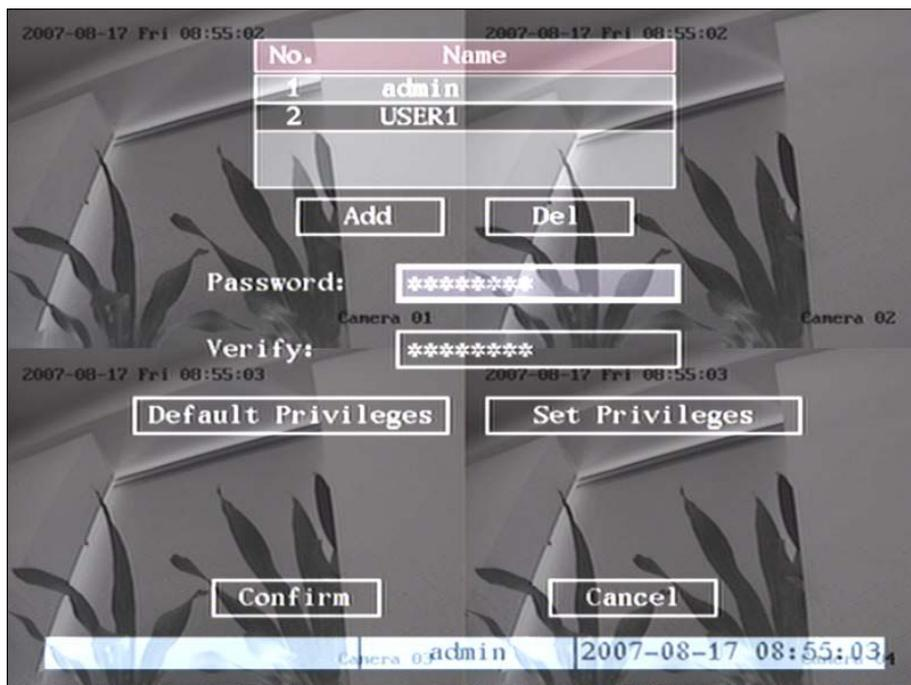

Fig 4.6 Change users' password
Step 2: Select the objective user name by using **【↑】** , **【↓】** then move the “Active Frame” to “Password” icon by using **【→】** / **【←】** keys. As fig 4.6 shows: